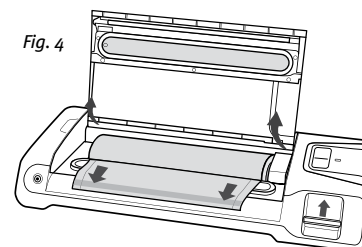

Fig. 4
4. When Seal Indicator light turns off, unlock latch and lift lid.(Fig.4)